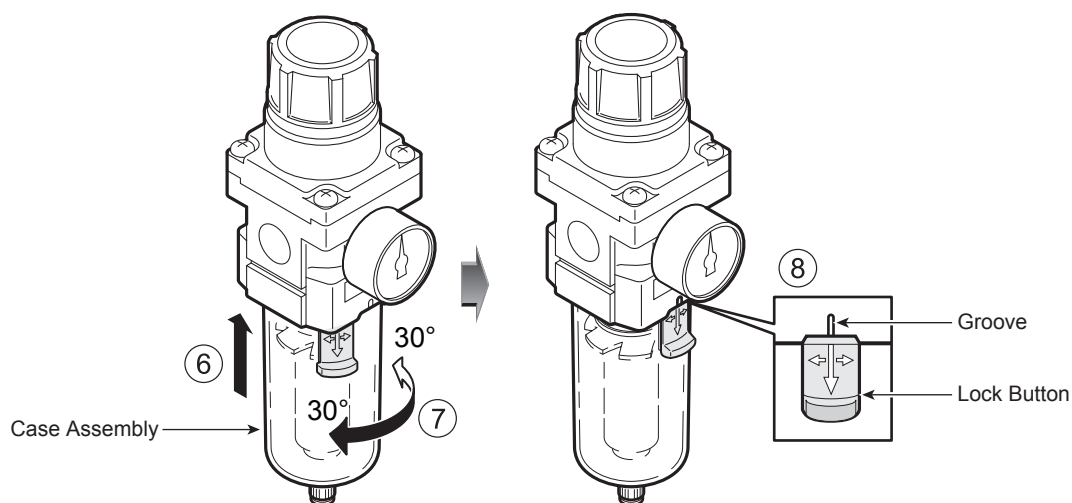

Fig.2
- b)** Remove the element assembly from the case assembly while rotating the element assembly 45 degrees clockwise or counterclockwise. (Fig.2 ①, ②)
- c)** Remove the old filter element by rotating the baffle in the direction of the arrow. (Fig.2 ③)
- e)** Install the element assembly in the case assembly so that position ① of the element assembly lines up with position ② of the case assembly. (Fig. 2 ④)
- f)** After installing the element assembly, rotate it 45 degrees clockwise or counterclockwise so that the ③ of the element assembly is fitted in the ④ of the assembly case. (Fig. 2 ⑤)
- g)** Mount the case assembly to its original position. (Fig. 2 ⑥, ⑦)
Insert the case assembly so that the lock button is aligned with the groove after rotating the case assembly 30 degrees. (Fig. 2 ⑧)